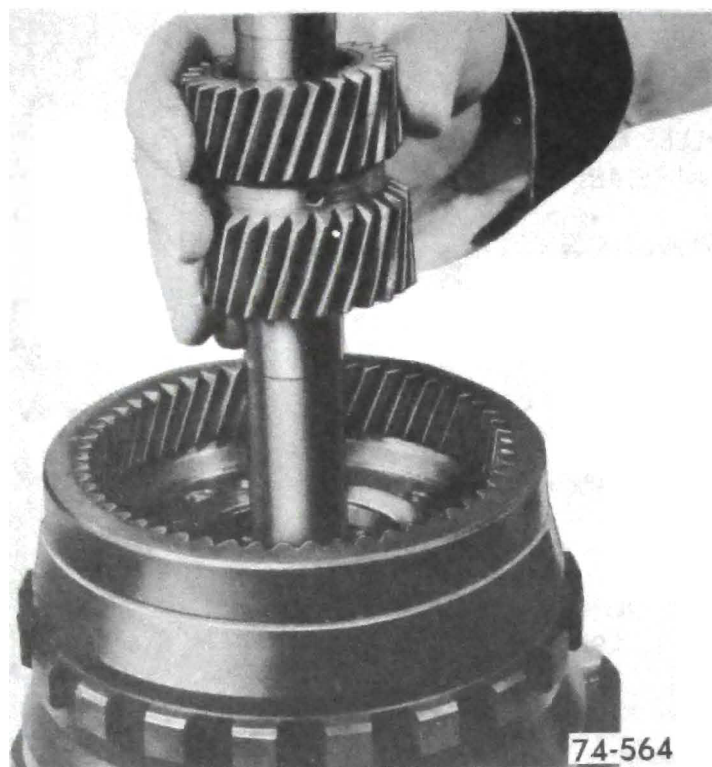

Figure 76-106
6. Remove sun gear. See Figure 76-106.